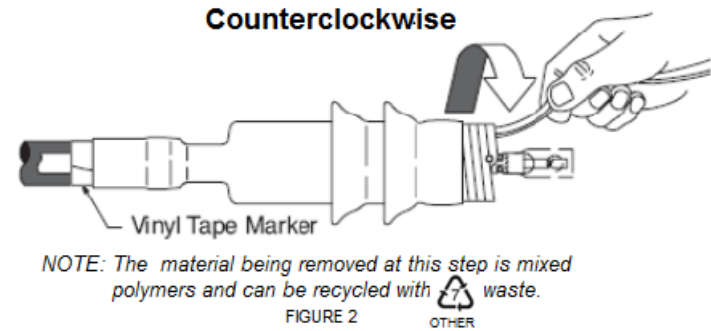

FIGURE 2
4. Install termination onto cable and unwind core, allowing termination to shrink into place. (*Figure 2*)